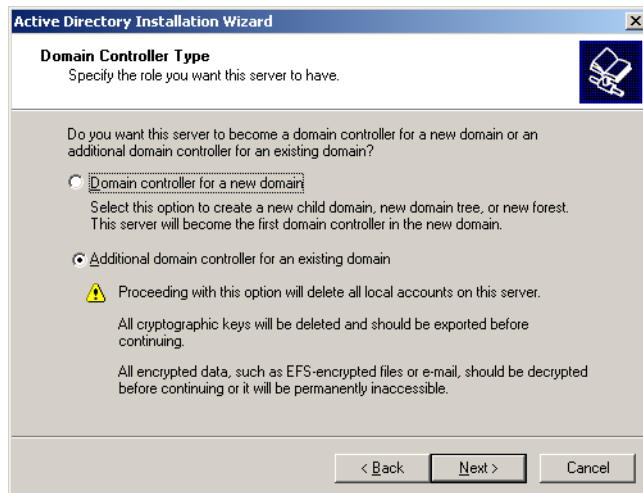

Figure D-29 Domain controller type dialog
11. From the dialog shown in figure D-29, select **Additional Domain controller for an existing domain** radio button, and then click the **Next** button.